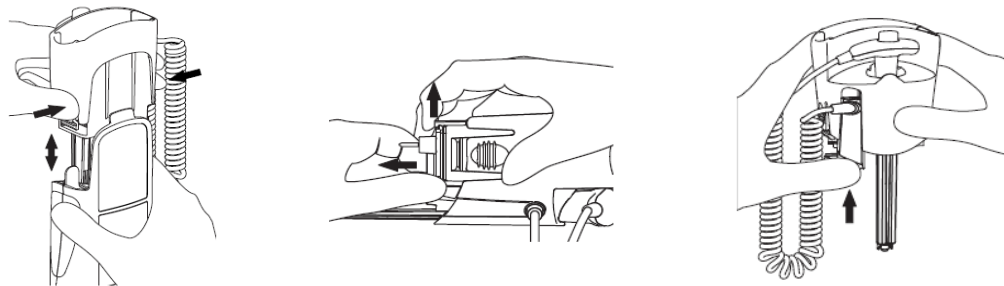

Figure 52. Method of Changing Filac 3000 Isolation Chambers and Probes
3. To remove or replace any isolation chamber/probe assembly, grasp the isolation chamber from each side as shown in Figure 52.